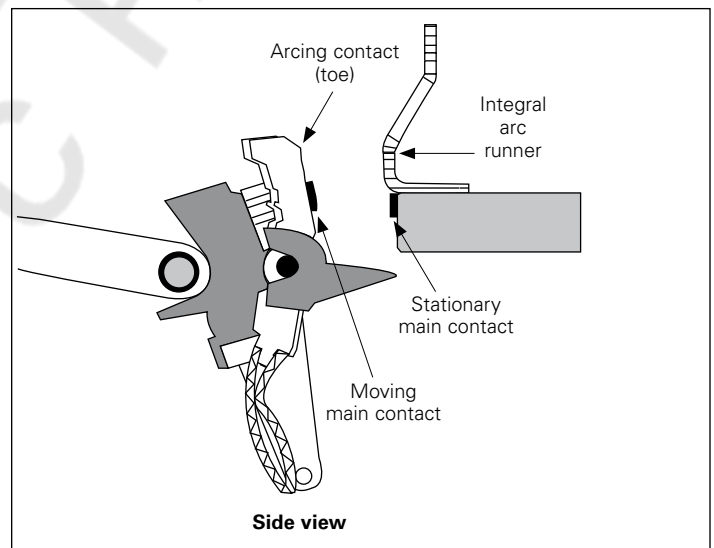

Figure 99. Contact inspection area with circuit breaker open
2. Use the contact wear indicator to inspect each contact. The contact wear indicator is the relative position of the individual contact fingers to a narrow, side-to-side ledge inside the arc chamber. The ledge is actually part of the arc chamber. When the circuit breaker is closed and the contacts are in good condition, the narrow ledge is covered by the back end of each of the contact fingers (**Figure 99**). If the back end of any of the contacts are below the ledge, the contact assembly should be replaced.